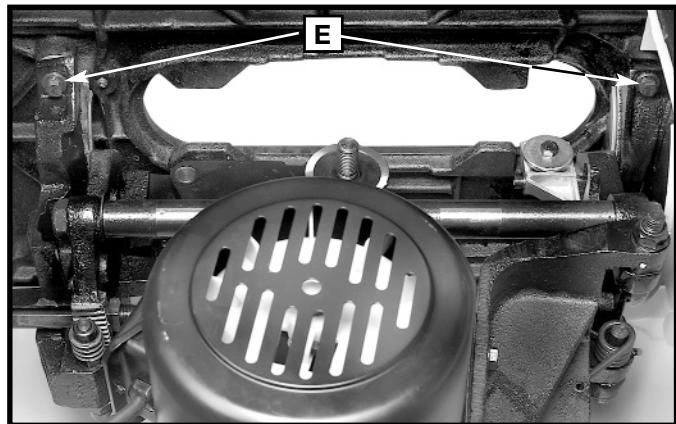

Fig. 37
1. Lower blade. Remove blade guard and table insert. With a 1/2" wrench, slightly loosen the 4 front and rear trunnion mounting bolts. **NOTE:** Two trunnion mounting bolts (E) Fig. 37 are shown as looking up inside side of saw.
3. To check blade alignment, follow section "CHECKING BLADE ALIGNMENT" procedure until proper alignment is achieved. Tighten 4 trunnion bolts (E) Fig. 37.
4. Check blade alignment again after tightening bolts to confirm alignment. If alignment is off, loosen the 4 trunnion bolts (E) and repeat the above steps until proper alignment is achieved with bolts fully tightened.